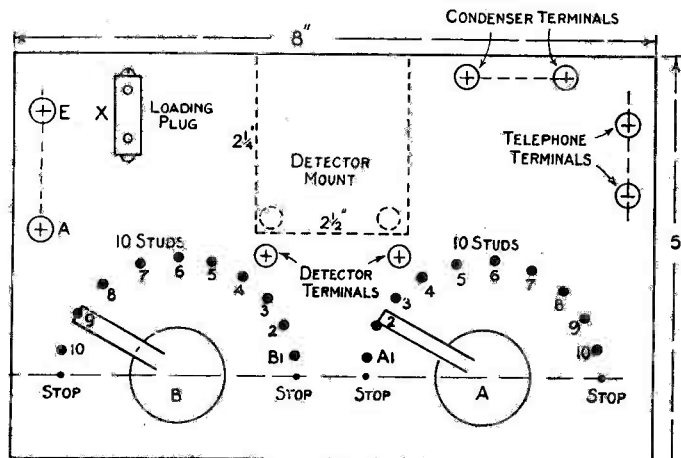
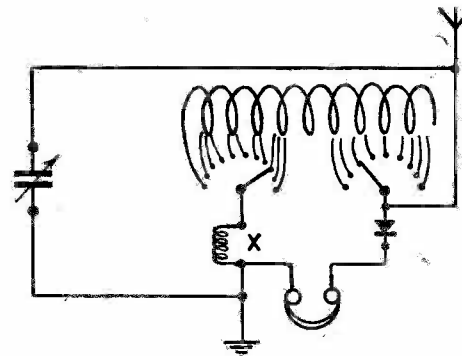

Fig. 47.—Lay-out of Ebonite Panel.
Fig. 50.—Wiring Diagram.
The Panel.—The ebonite panel should now be prepared as shown in Fig. 47. The sizes of the various holes, etc., are not stipulated, as this will depend upon the gauge of the terminals, screws, studs, etc., used.
coils, and a coil plug is therefore fitted to the surface of the panel. Two terminals are also provided for the addition of a condenser to tune these coils on the longer wavelengths. The loading plug is shown on the wiring diagram as in Fig. 50, its position being also clearly indicated in Fig. 47.
Wiring.—Now that all the components are mounted on the panel it is only necessary to wire it up, but this is not the least important job. All wiring should run in straight lines and never parallel if it is possible to avoid so doing. Bare wire is preferable to insulated wire, and good stiff wire of 18- or 20-gauge is the best to use. A wiring diagram is given by Fig. 50. The wiring is as follows: (1) From aerial terminal to the fine-tuning switch of coil. (2) From fine-tuning switch to bornite of crystal detector and from zincite side of detector to one tag of telephones. (3) From other tag of telephones to coarse-tuning switch, via the loading plug. (4) From terminal of loading plug nearest the telephones to earth terminal. (5) Wires from the fine-tuning switch and the side of the loading plug next to the telephones to the condenser terminals.